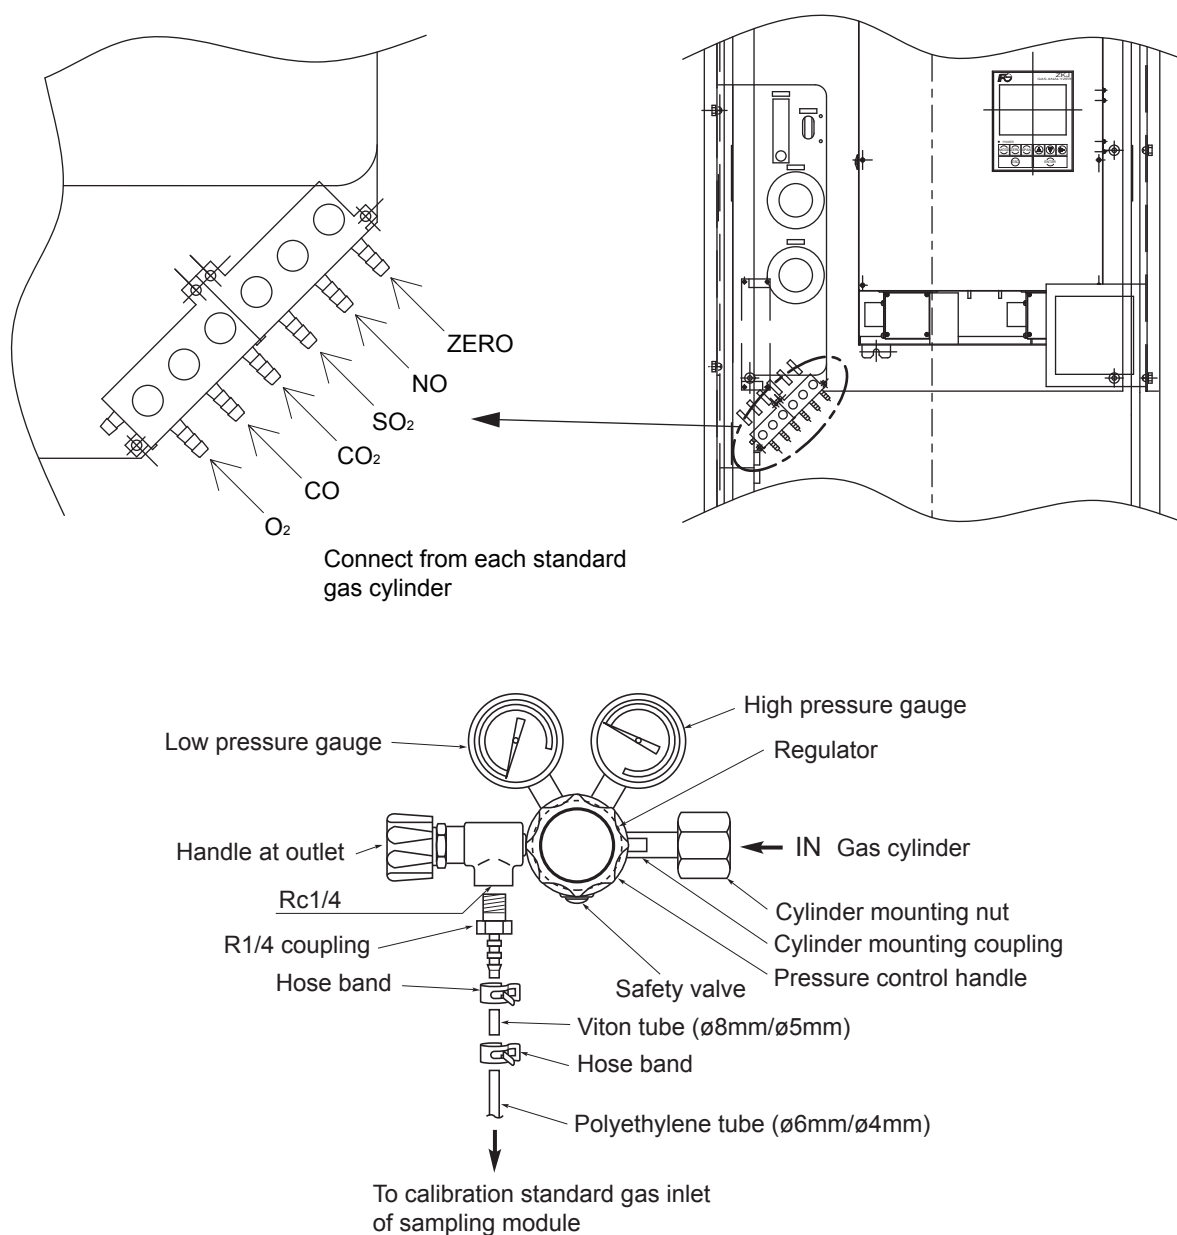

Fig. 2-1
(2) Attach a polyethylene tube ($\phi 6\text{mm}/\phi 4\text{mm}$) at the solenoid valve located in the left side of the analyzer. Then, cut the polyethylene tube at a proper length not so as to contact a space heater (option). (See Fig. 2-1).
(3) Install the standard gas cylinder in the lower section of the analyzer locker.